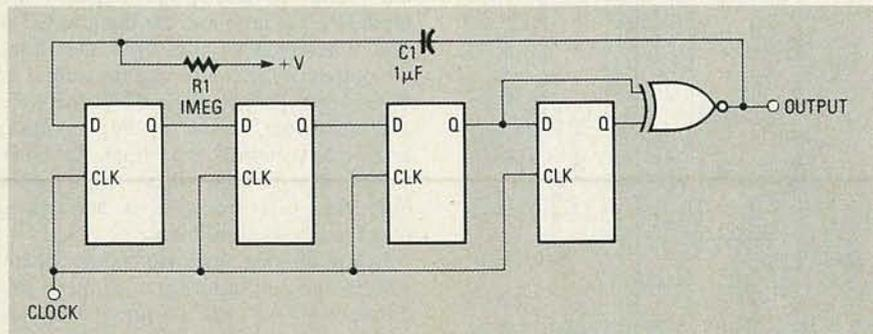

FIG. 1—A PSEUDO-RANDOM sequencer. Due to an error, the schematic shown in the Sept. issue for this circuit was incorrect. The correct circuit is shown here.
Figure 1 shows an electrocardiogram of a patient in ventricular fibrillation. The region labeled A shows irregular, nonrepeating voltage fluctuations. A defibrillating shock of about 1,000 volts is applied at B. That causes the electrocardiogram amplifier to overload. For a period the electrocardiogram shows a signal with an elevated baseline, then the amplifier saturates again (C). After a few seconds the heart begins to beat slowly (D), though not in a normal manner.
FIG. 1—ELECTROCARDIOGRAM of a patient with ventricular fibrillation. At point *b* defibrillation (the applying of a voltage) is performed. A heartbeat, although abnormal, slowly begins to appear after several seconds (*d*).
**Part 7** BEFORE WE GET TO our topic for this month, let's clear up an error that appeared in our last installment (September 1985). Among the circuits that we looked at then was a shift register called a pseudo-random sequencer. Due to a mix-up, an incorrect schematic was shown for that circuit (Fig. 15 in that issue). The correct schematic is shown here in Fig. 1.